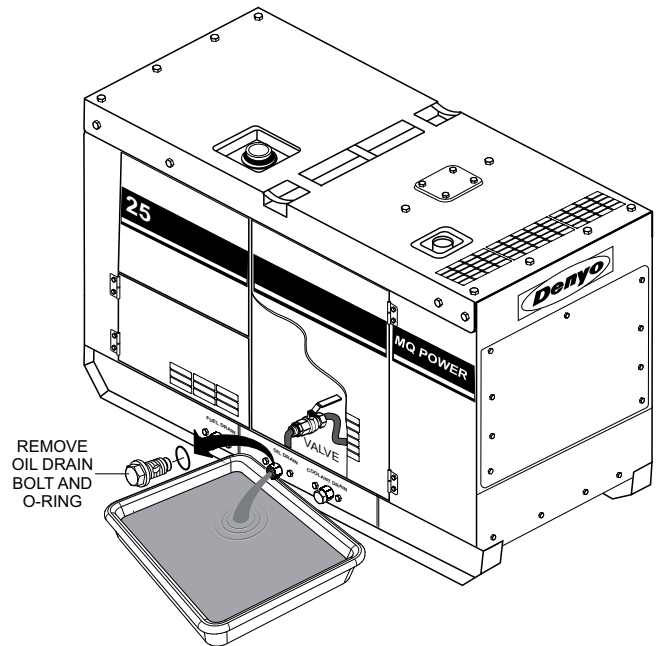

Figure 67. Draining The Engine Oil
4. Remove the **oil drain bolt and O-ring** (Figure 67).